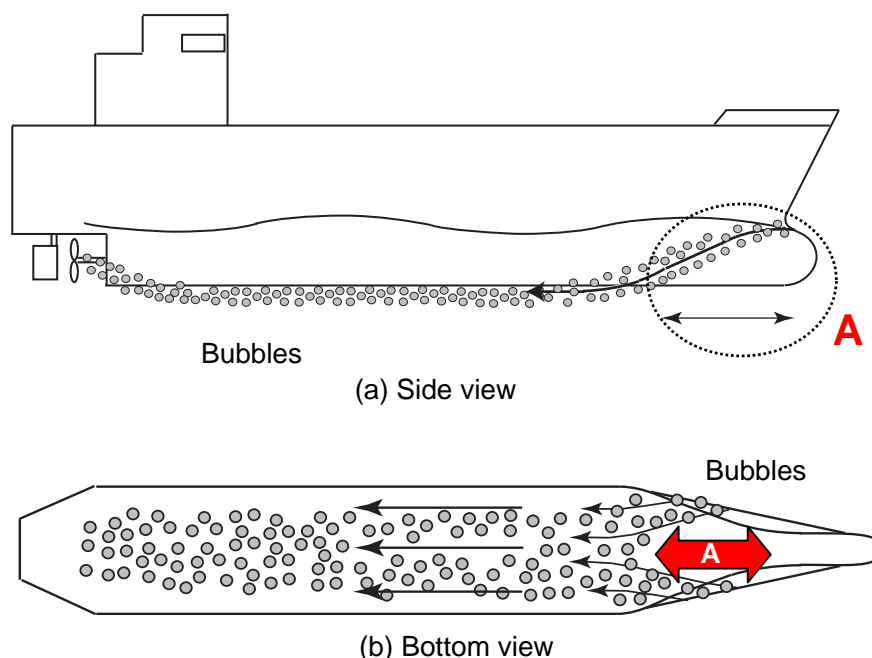

Fig. AP1.1.1 Flow of bubbles
Flow of air bubbles created at ship's bow varies from hull to hull and according to ship's speed. Typically, bubbles flow along the hull as shown in Fig. AP1.1.1.
- The best location for the transducer shows arrow (a) in Fig. AP1.1.1.
The performance of the Doppler sonar is easily degraded by bubbles, so the transducer must be placed at the location "A" as shown in Fig. AP1.1.1.